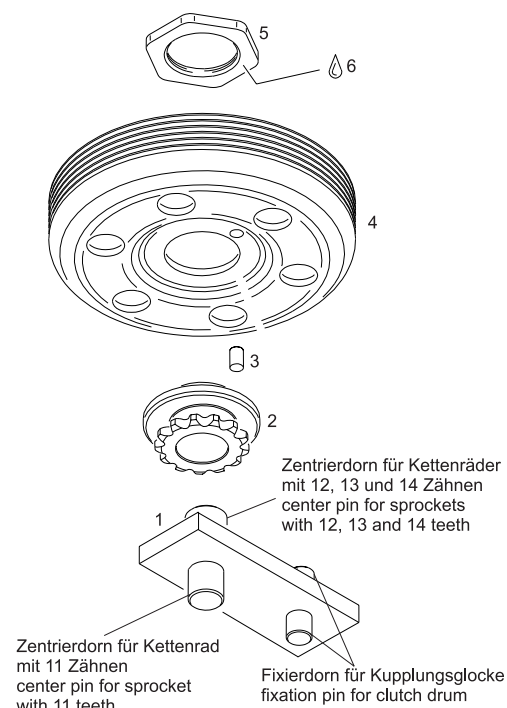

Fig. 15-1
- ⇒ Apply grease on needle cage (9) at use of chain sprocket with 12, 13 and 14 teeth or on plain bearing (9) for chain sprocket with 11 teeth.
- ⇒ Apply ERGO 4052 on the thread of hex.nut (item 15).
- ◆ **Note:** A smaller thrust washer (14) is required for the chain sprocket with 11 teeth, than when using the chain sprocket with 12, 13 and 14 teeth.
- ⇒ Fit thrust washer (item 14) and hex. nut (item 15) and tighten nut to 60 Nm / 530 in.lb.
The chain sprocket (item 2) is attached to the clutch drum (item 4) with a hex. nut (item 5) and torque is transmitted by a needle pin (item 3) (see fig. 15-1). The proper changing or renewal of the chain sprocket is only feasible when using the appropriate fixture (item 1, ROTAX part no. 277 362). To change or renew the chain sprocket proceed as follows:
- ⇒ Clamp fixture (1) for the chain sprocket in a vice.